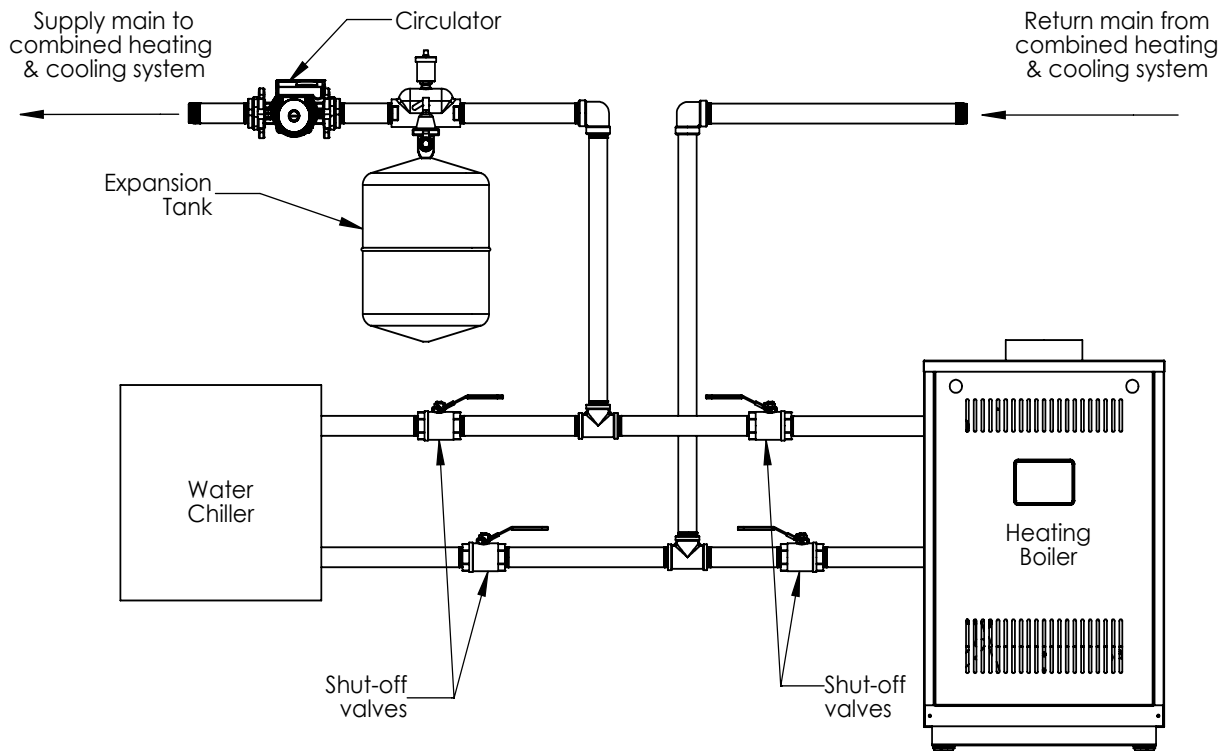

Figure A-1: Isolated Boiler from Refrigeration System
1. If boiler is used in connection with refrigeration systems, boiler must be installed with chilled medium piped in parallel with the heating boiler using appropriate valves to prevent chilled medium from entering boiler. See Figure A-1. Also consult I=B=R Guide RHH published by Air Conditioning Contractors of America (ACCA) for additional information on the design of hydronic heating systems.